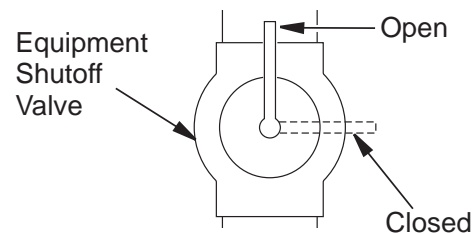

Figure 22 - Equipment Shutoff Valve
1. Close equipment shutoff valve (see *Figure 22*).
1. Open equipment shutoff valve (see *Figure 22*).
2. Close equipment shutoff valve (see **Figure 22, Page 14**).